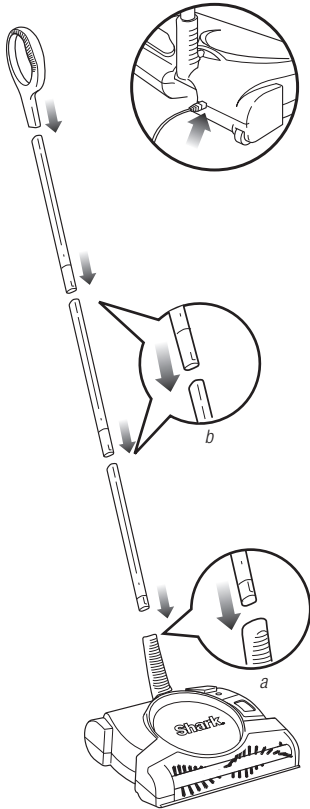

Fig. 1
- 1 Insert the lower handle extension tube (the shortest of the three tubes) into the lower handle (a). Then assemble the other two extension tubes and insert the assembly into the lower handle extension tube (b). Now attach the upper handle to the top extension tube. (Fig. 1)
- 1** Insert the lower handle extension tube (the shortest of the three tubes) into the lower handle (a). Then assemble the other two extension tubes and insert the assembly into the lower handle extension tube (b). Now attach the upper handle to the top extension tube. (Fig. 1)